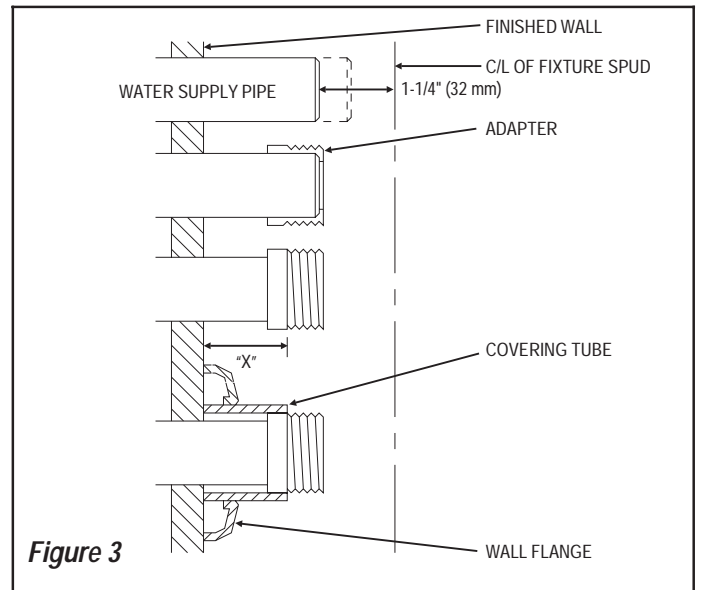

Figure 3
For Sweat Solder applications, refer to the following instructions and Figure 3:
- Determine length of Covering Tube by measuring distance from finished wall to the first thread of Adapter (dimension "X" in Figure 3). Cut Covering Tube